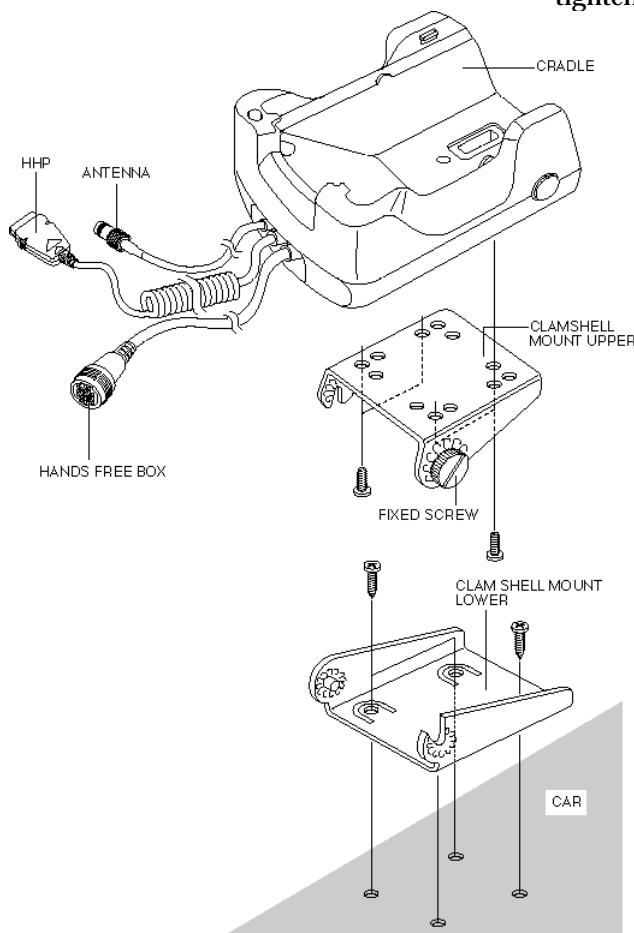

Figure 2-2 Cradle Installation
2. Separate the two halves of the clamshell by removing the two large slotted screws. See the figure 2-2.